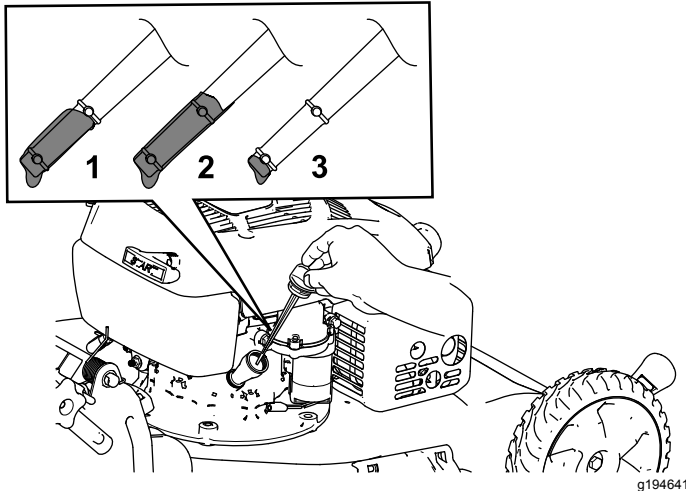

Figure 36
10. Read the oil level on the dipstick (Figure 36).